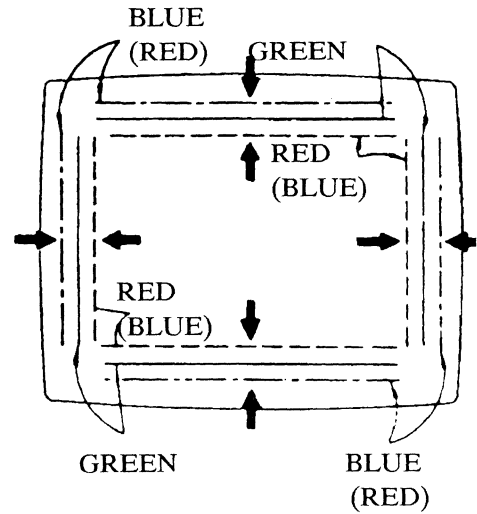

Fig. 14. Dynamic Convergence
- (4) Tilt the deflection yoke right and left. Insert tilt adjustment wedge 3 between the deflection yoke and the CRT until the misconvergence illustrated in Figure 14 has been corrected.
- (5) Alternately change the spacing between, and depth of insertion of, the three wedges until proper dynamic convergence is obtained.
- (6) Check purity and readjust, if necessary.